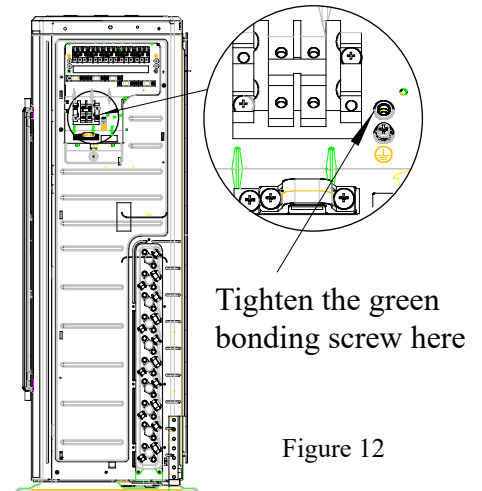

Figure 12
- (1). Open the side plate.
- (2). Connect the power cord to the terminals “L1”, “L2” and also the earthing screw, and then connect the wiring terminals “N(1),2,3” of the indoor unit to those of the outdoor unit correspondingly. Please use the green bonding screw to connect the earthing cord. The location is showing in the figure 12.
- (3). Fix the power cord with wire clips.
- (4). Let the power cord go through the rubber ring.